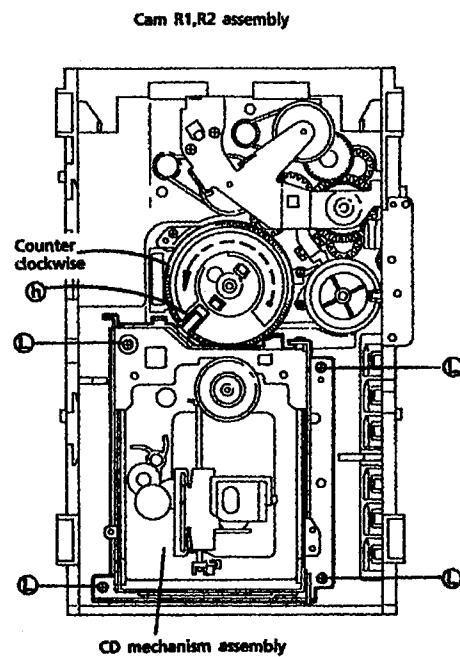

Fig. 29
2. Rotate the Cam R1, R2 ass'y counterclockwise so that CD mech. ass'y's shaft ① is positioned as shown in Fig. 29.
3. Remove 4 screws ② securing CD mech. ass'y. (See Fig. 29.)